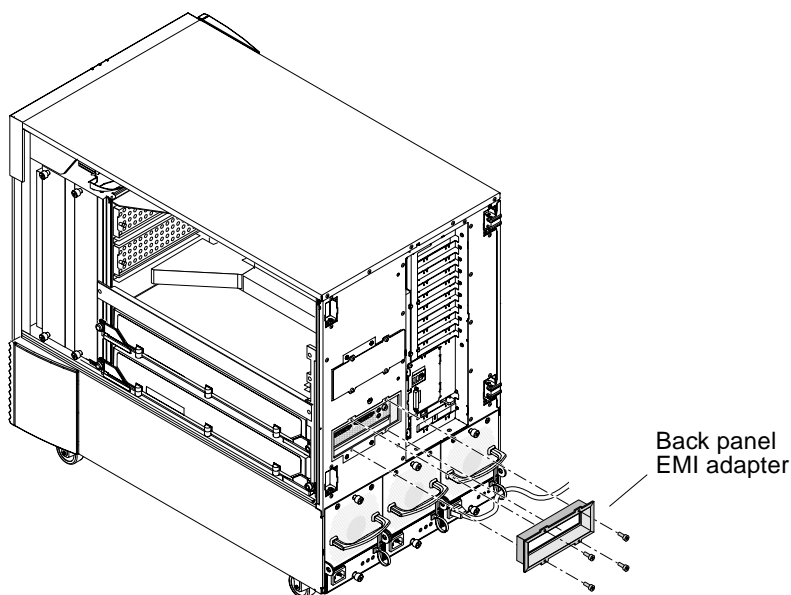

FIGURE 4-6 Installing the Back Panel EMI Adapter on the Server Back Panel I/O Slot B
15. Secure the back panel I/O slot EMI adapter to the slot now containing the Sun XVR-4000 graphics accelerator (FIGURE 4-6).
2. **Remove the back panel I/O slot EMI adapter from the selected slot containing the Sun XVR-4000 graphics accelerator (FIGURE 4-6).**